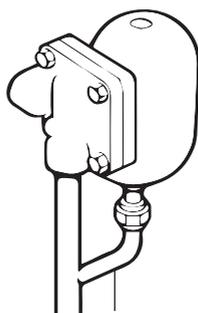

Fig. 2
- 3.3** The ¾" AE10S high capacity automatic air vent must always be fitted with the inlet at the bottom so that the float mechanism is rising and falling in a vertical plane. From the tapping provided at the low point of the cover, a ½" balance pipe having continuous rise towards the automatic air vent must be fitted and connected into the inlet pipework (as shown in Figure 2) which is essential for satisfactory operation.